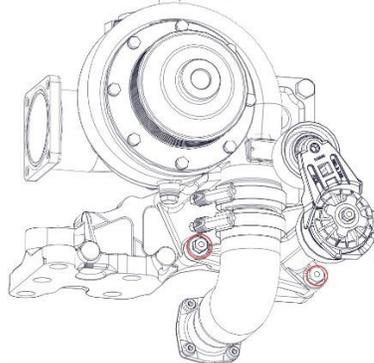

Figure 162-3
7. Remove the last two bottom front bolts from the water pump assembly (Figure 162-3).